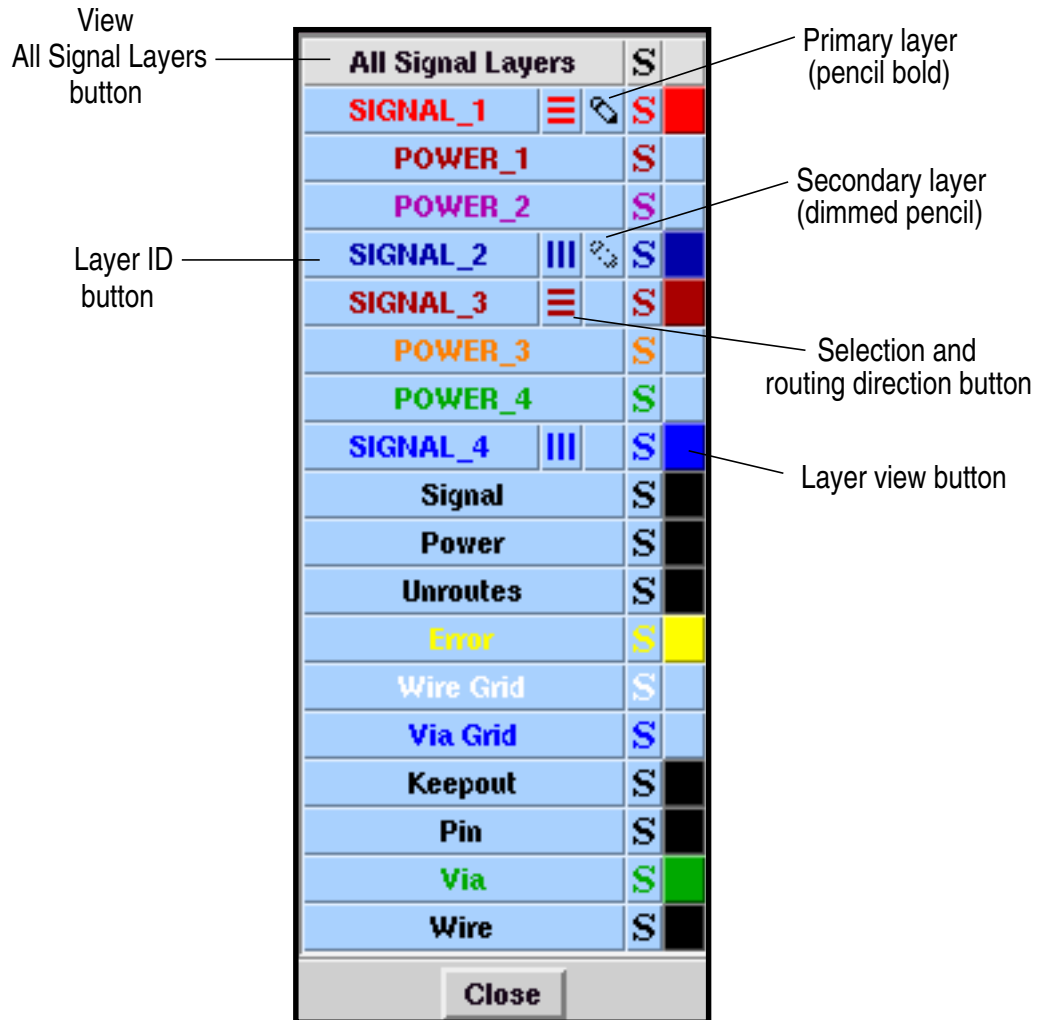

Figure 5-9. Layer Panel Example
1. Click the Layer button in the tool bar to display the layer panel shown in Figure 5-9.